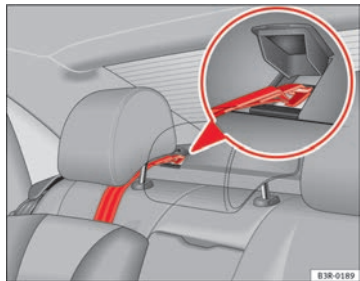

Fig. 35 Retainer strap:
- Lead the Top Tether fastening belt under the rear seat head restraint → fig. 35 (lift the head restraint where necessary).
- Lift the anchorage cover on the rear shelf -see detail- → fig. 35.